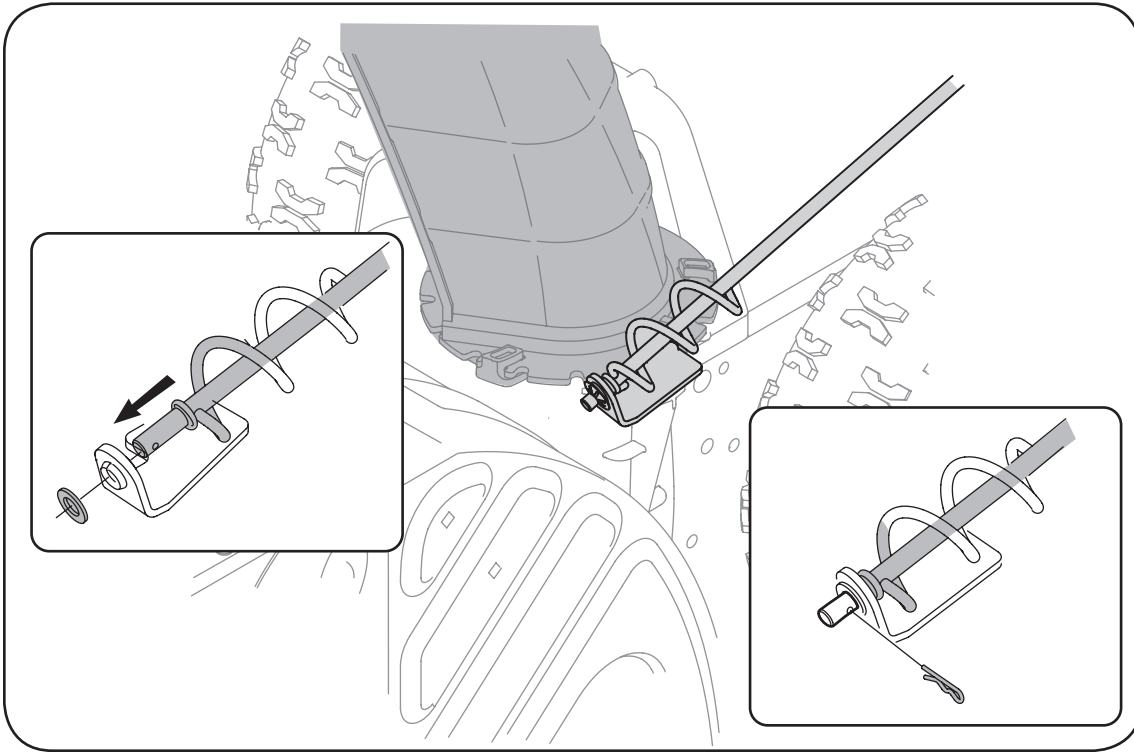

Figure 3-5
- Remove the flat washer and hairpin clip from the end of the chute directional control, Figure 3-5.